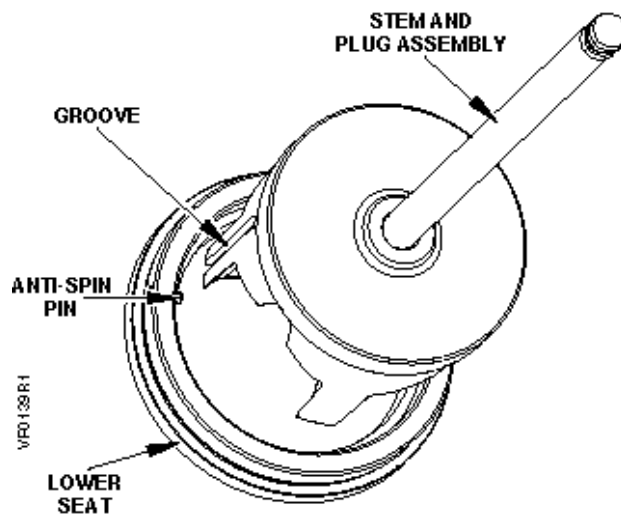

Figure 2. Aligning the Groove and Pin.
1. Locate the groove on the plug and align it with the anti-spin pin in the seat. See *Figure 2*.
1. Locate the groove on the plug and align it with the anti-spin pin in the upper seat. See *Figure 2*.